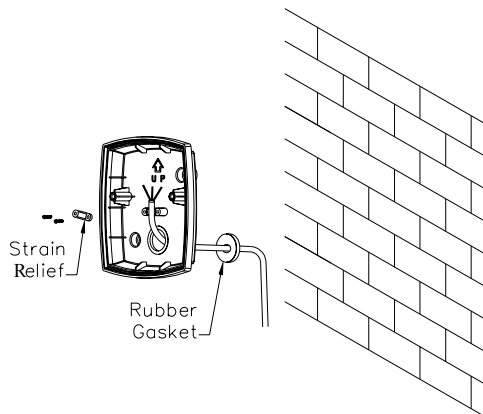

FIGURE 10
- (1) Switch off the power source or wall switch
- (2) Detach the wiring box from the backplate.
- (3) Use a flat blade screwdriver to break a hole on the rubber gasket. Route the power cord through the rubber gasket and strain relief by fastening the power cord with two screws provided.(FIGURE 10)